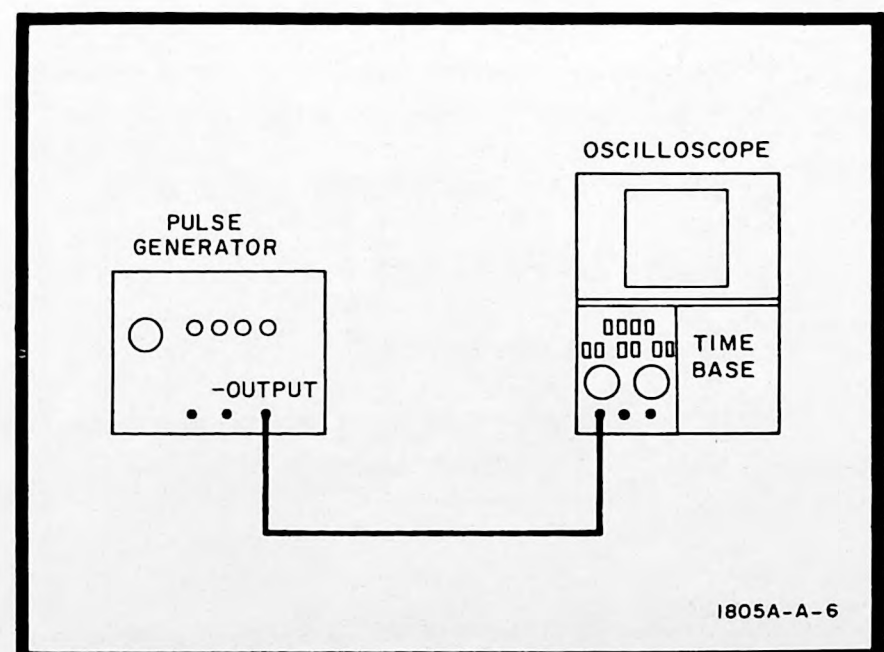

Figure 5-4. Risetime Test Setup
- a. Connect equipment as shown in figure 5-4.